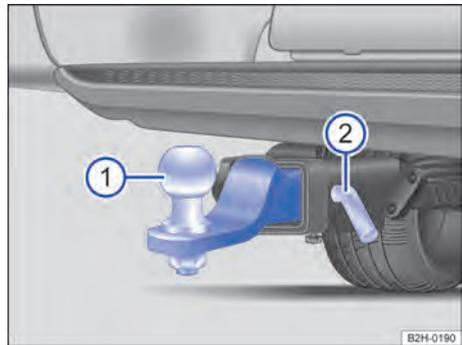

Fig. 146 Under the rear bumper: mount the tow hitch.
- Check that the trailer hitch housing is clean and undamaged → ①. If necessary, clean.
- Push the trailer hitch → Fig. 146 ① into the housing as far as it will go.
- Push locking pin → Fig. 146 ② into the housing and lock with the locking pin → ⚠️.